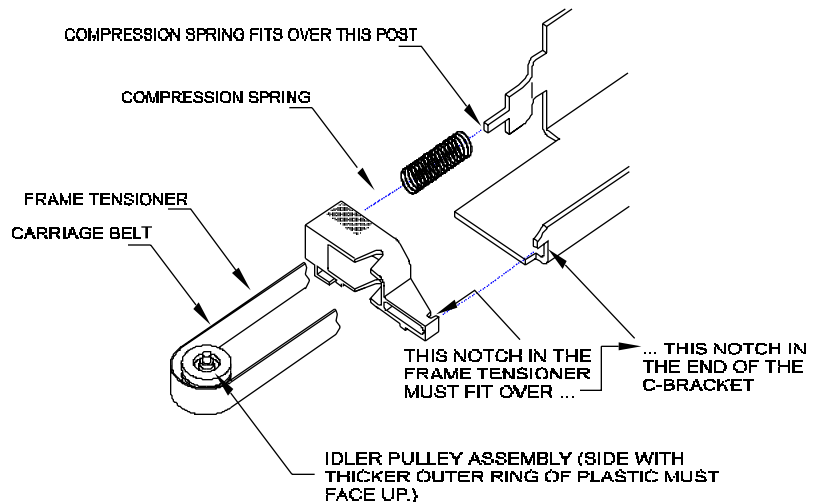

Figure 5-6. Installation of Frame Tensioner.
9. Push the Carrier Belt through the Frame Tensioner enough to remove the Idler Pulley Assembly from the Frame Tensioner, and then set aside the Idler Pulley Assembly and the Frame Tensioner. (See Figure 5-6 for part identification, if necessary.)
12. Holding the Carrier Belt and Frame Tensioner, insert the Idler Pulley Assembly into the loop of the belt. Make sure that the side of the Idler Pulley Assembly with the thicker outer ring of plastic is facing up. See Figure 5-6.